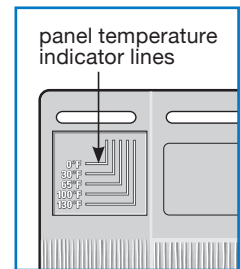

figure 1
Each panel has a PanelThermometer™ that displays panel temperature and indicator lines that serve as guides for proper spacing between the panels. The PanelThermometer is located on the upper right-hand corner of the panel; the indicator lines are on the upper left-hand corner (*figure 1*). Note that the panel temperature may change throughout the day. Space the panels according to the panel temperature at the time of installation. The cells on the PanelThermometer will change color to indicate the temperature of the panel.
4. Install the next panel by positioning it below the starter strip and next to the first panel. Push in and up to lock the panel into the starter strip, as shown in *figure 5*. Space the second panel according to the panel temperature at the corresponding temperature indicator lines (*figure 1*). Gently tap the outside of the